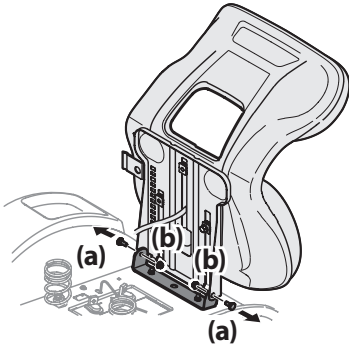

Figure 5
2. Remove the two shoulder bolts (a) and flange lock nuts (b) in the seat pan as shown in Figure 5.